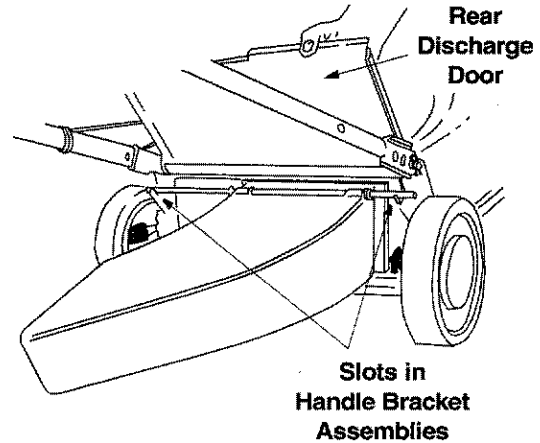

Figure 15
- Place the ends of the rod into the slots in the handle bracket assemblies. See Figure 15.